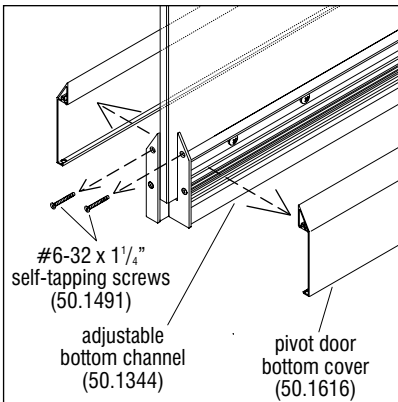

Figure 7 - Remove Bottom Covers
7. Carefully lay door leaf on a flat, protected worksurface. First, remove the two upper #6-32 x 1/4" self-tapping screws, then remove pivot door bottom covers (50.1616) from the bottom of door leaf (Figure 7).